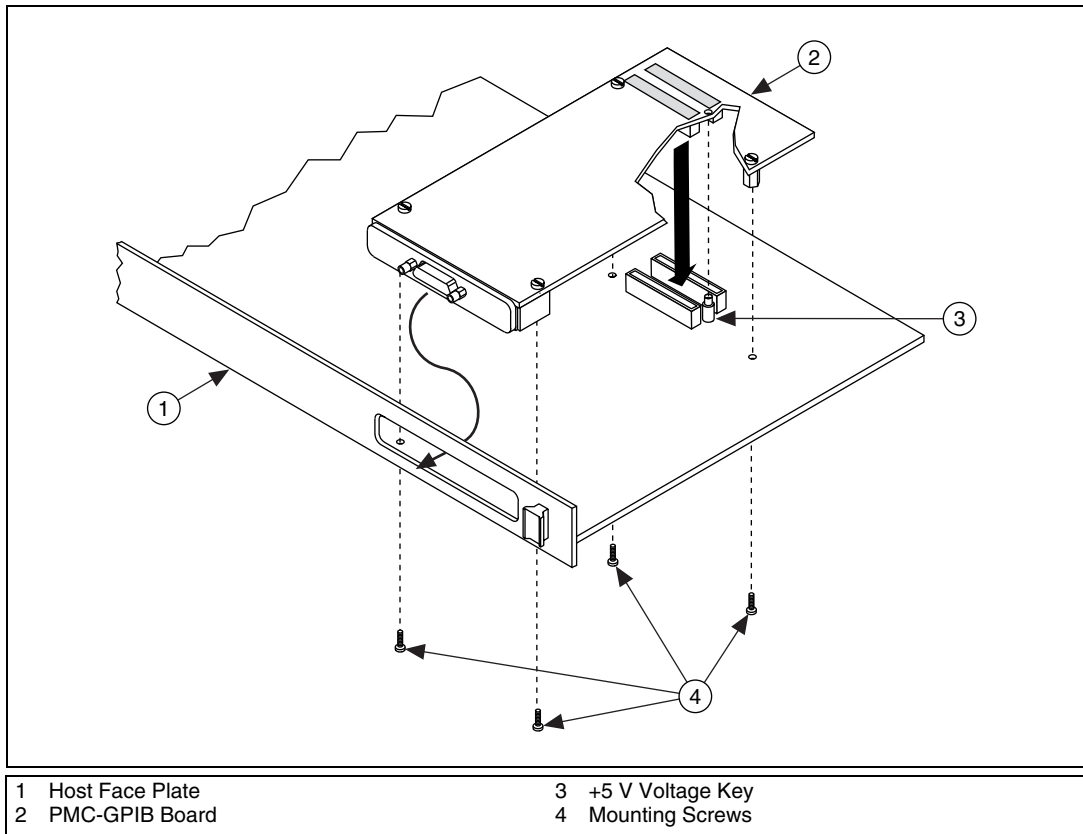

Figure 2-3. Installing the PMC-GPIB
7. Insert the PMC-GPIB into the slot as shown in Figure 2-3. It might be a tight fit, but do not force the board into place.